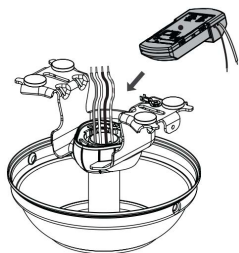

Fig. 9
Step 1. Insert the remote receiver to the bracket (Fig 9).